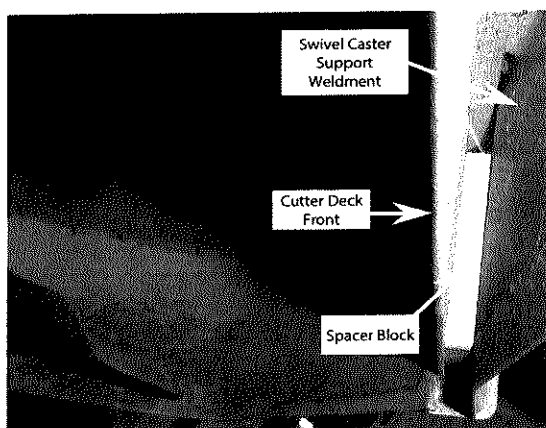
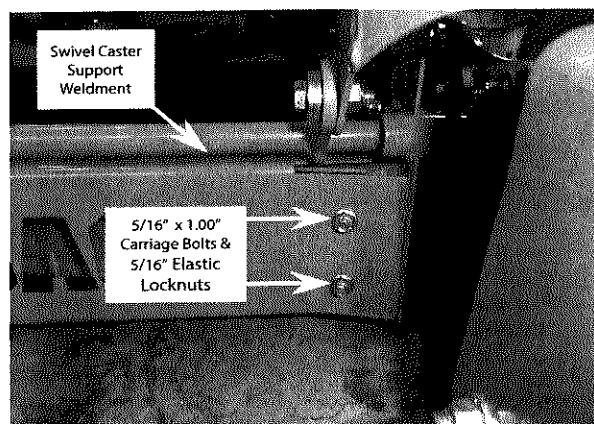

Figure 7
Figure 8
10. On the left side, insert the spacer block included in the kit between the cutter deck and the swivel caster support weldment, making sure to align the holes. See Figure 7. Then, install two 5/16" x 1.00" carriage bolts through the cutter deck, the spacer and finally through the swivel caster support weldment. See Figure 8. Install two 5/16" flange locknuts on the carriage bolts. Do not tighten hardware at this time.